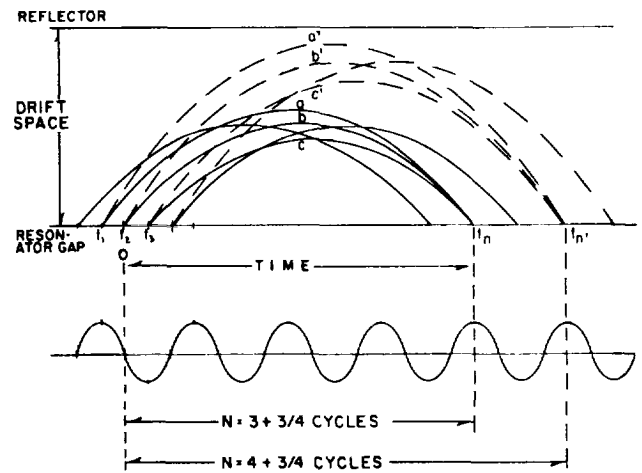
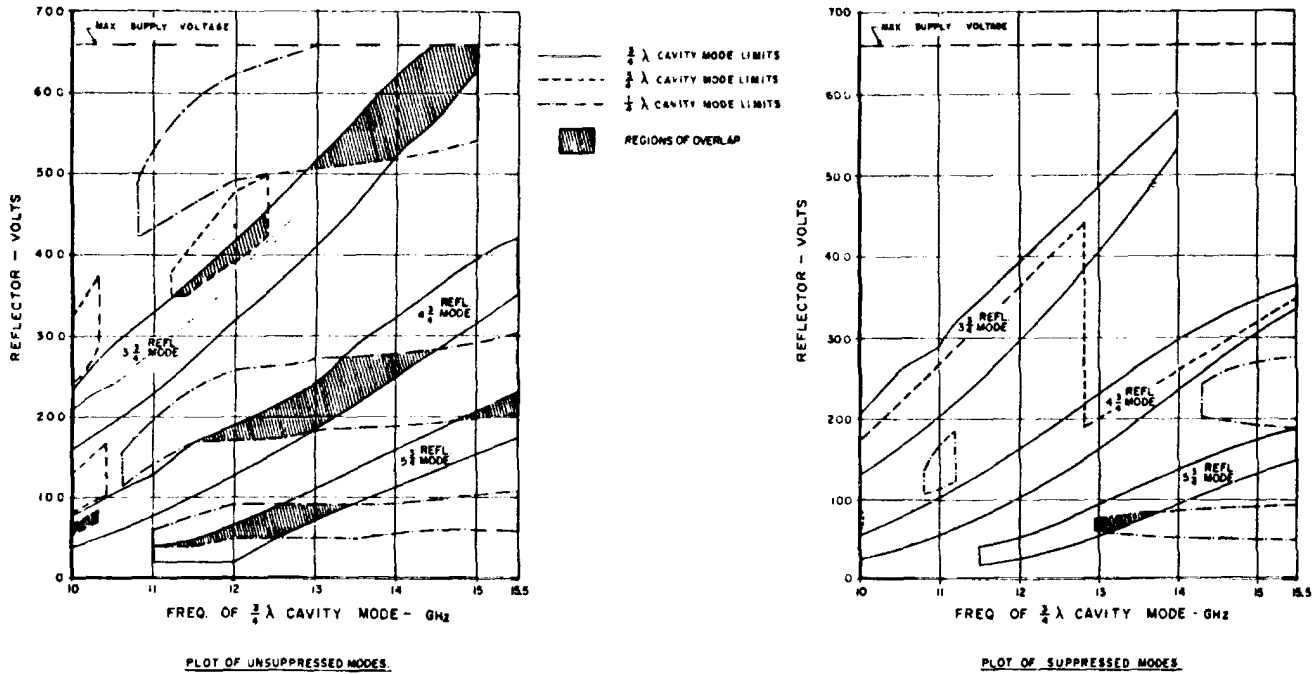

Figure 4-12. Bunching of Electrons in a Reflex Klystron
Figure 4-14. Graph Showing Klystron Oscillation Modes
4-42. This bunching of electrons is illustrated in Figure 4-12, which shows the transit time relationship of electrons while in the drift space between the resonator grids and the reflector. Consider an electron (a) leaving the grids at time t_1 . The voltage of the RF signal on the grids is such that the electron receives energy and is accelerated into the drift space. It arrives back at the grids at time t_n . An electron (b) leaving at time t_2 receives no acceleration because the RF signal is now at zero volts. Thus electron (b) does not travel as far into the drift space and arrives back at the grids at the same time as electron (a). Electron (c) leaving at time t_3 is decelerated since the RF signal has reversed voltage polarity since time t_1 . Electron (c) travels a shorter distance into the drift space and arrives back at the grids at the same time as electrons (a) and (b).
4-44. The time that the electrons spend in the drift space is adjusted by changing the reflector voltage. As reflector voltage is increased in the negative direction, electrons a, b, and c spend less time in the drift space. As reflector voltage is decreased electrons a^1 , b^1 , and c^1 (Figure 4-12) travel farther into the drift space and take a longer time (t_{n1}) to return to the grids. At the low end of the frequency band (10. 0 to 12. 8 GHz.), the reflector voltage is adjusted so that the number of oscillations (N) that occur at the grid while the electrons are in the drift space is equal to $3\text{-}3/4$ cycles. At the high end of the frequency band (12. 8 to 15. 5 GHz.), the reflector voltage is adjusted so that the number of oscillations equals $4\text{-}3/4$ cycles. When the oscillator is operating with $3\text{-}3/4$ cycles drift time it is known as operating in the $3\text{-}3/4$ reflector mode. A plot of reflector modes with respect to frequency and reflector voltage is given in Figure 4-14.
4-48. As shown in the plot of modes, Figure 4-14, the 5/4 wavelength cavity mode interferes with the 3-3, reflector mode at the lower end of the band. This mode is suppressed by means of two tapered loads adjoining the cavity, parallel to the plunger, and by an adjustable load in the klystron cavity. The mode suppressors are shown in Figure 5-13. Since klystrons possess a natural tendency to oscillate on the 1/4 wavelength cavity mode, and since this mode is undesirable, it is suppressed by the use of a small cylindrical load coupled to the cavity; a small screw matches the cavity to this load. The matching screw is effectively shorted out of the circuit at approximately 11 GHz and below by a shorting switch actuated by a cam on the frequency-drive shaft (Figure 5-13).